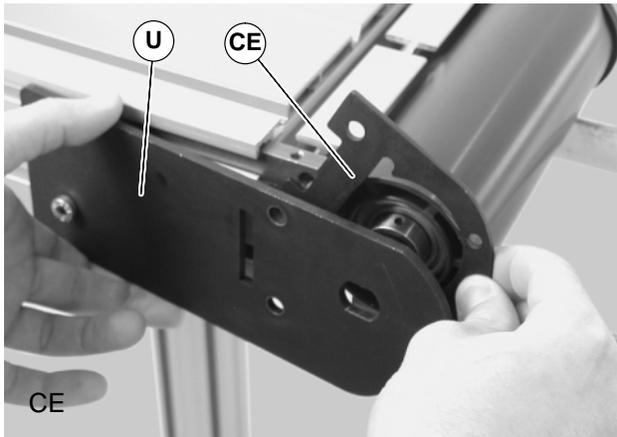

Figure 60
3. Pull back the outer headplate (U of Figure 60) and remove the inner spacer (CE).